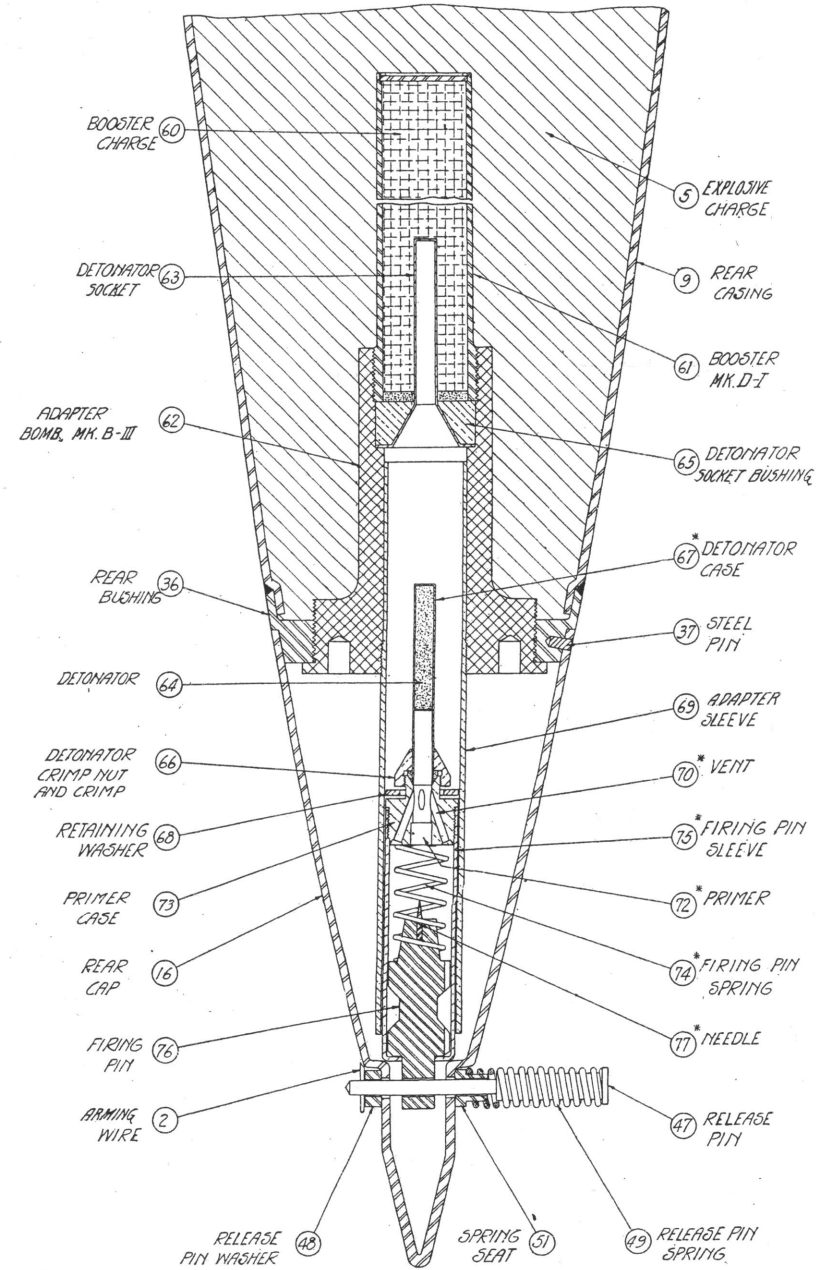

FIG. 4
The Mark III bomb fuse (shown in fig. 4) operates in a slightly different manner. Upon ejection of the release pin (47) the firing-pin sleeve (75) and its assembled parts, which constitute the fuse, slide forward with the up-tilting of the bomb. On the seating of the detonator case (67) in the detonator socket (63) the washer (68) slips into the space at the forward end of the adapter sleeve (69) and prevents the rebound of the moving parts. On impact, the retardation of the bomb body causes the firing pin (76) to strike the primer (72) with its needle (77), overcoming by its momentum the